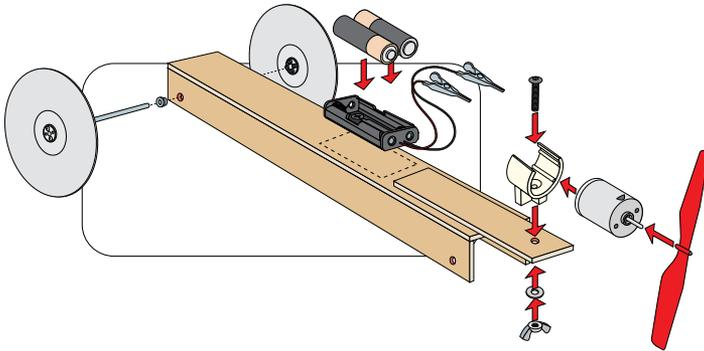

Figure 8
10. Using the screw, washer, and wing nut, attach the plastic motor mount through the hole on the 1-1/2" x 5" piece (Figure 8). The screw should be inserted into the center of the mount, and the washer should be placed between the bottom of the balsa wood and the wing nut to prevent the wing nut from grinding into the wood.
11. Secure the battery holder about 1/2" behind the small strip of balsa wood by placing double-sided tape on its base (Figure 8). Push the propeller onto the front shaft of the motor and slide the motor into the mount. The two leads should be pointed toward the battery holder.